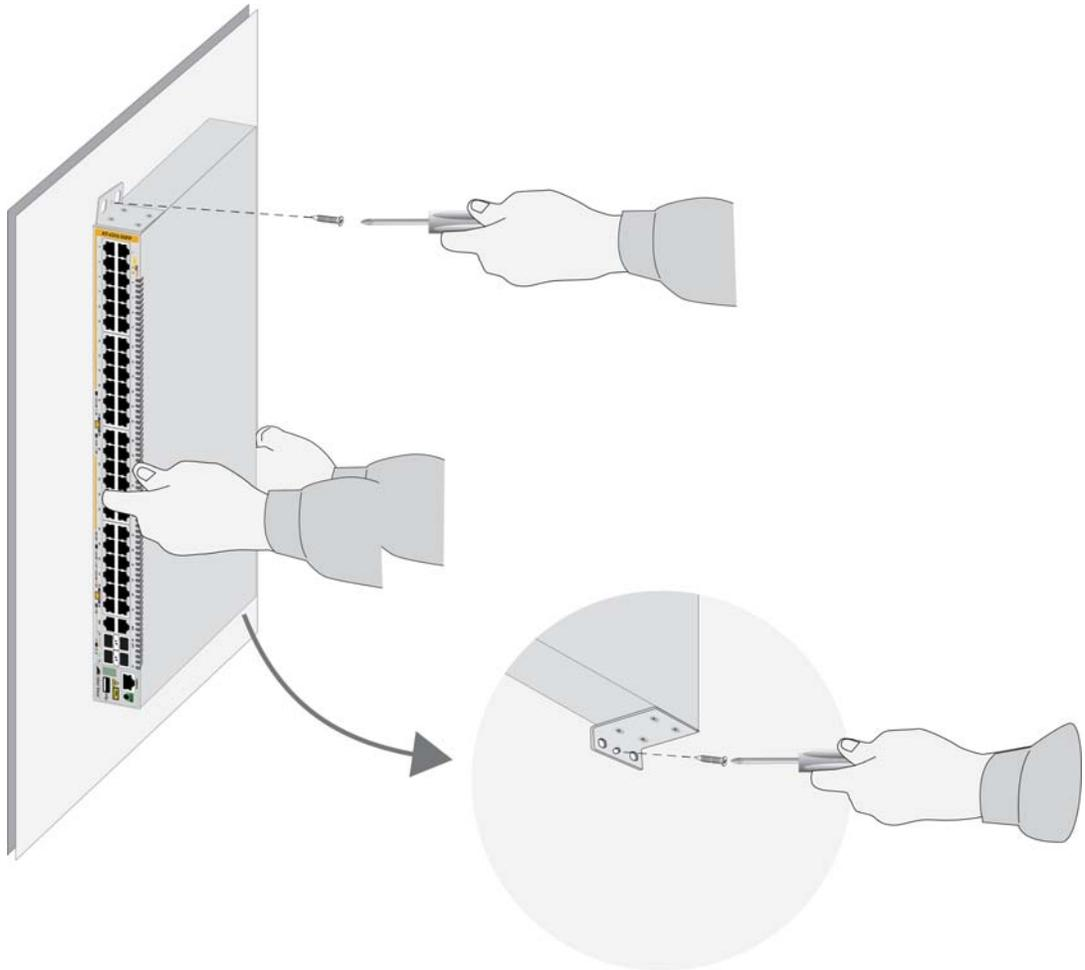

Figure 39. Installing the AT-x310-26FP, AT-x310-50FT, or AT-x310-50FP Switch on a Wall
7. Have another person hold the switch at the selected wall location while you secure it to the wall with the two provided screws. Refer to Figure 39.